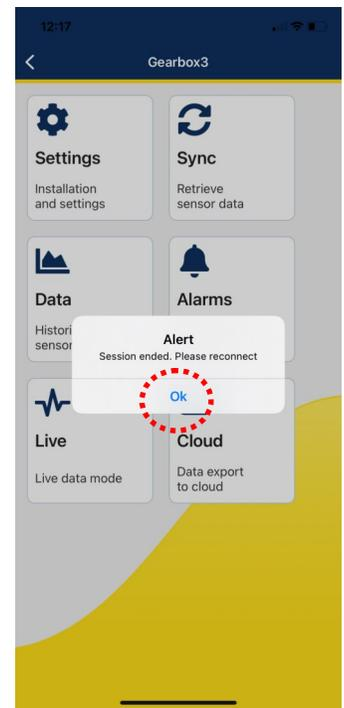

Figure 4
6. An Alert window will appear, click **Ok** (see figure 4).